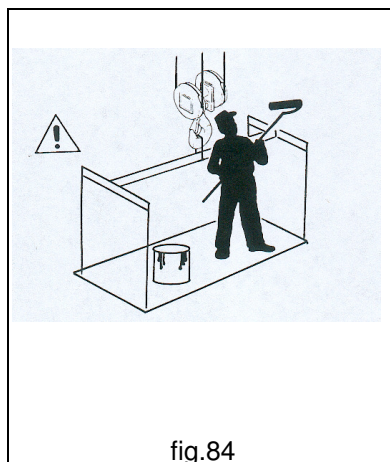

fig.84
- **NEVER** use the crane for jobs other than those for which it was designed, do not use it for other operations such as painting ceilings, changing light bulbs, a place to rest scaffolding on, etc.. (fig.84).